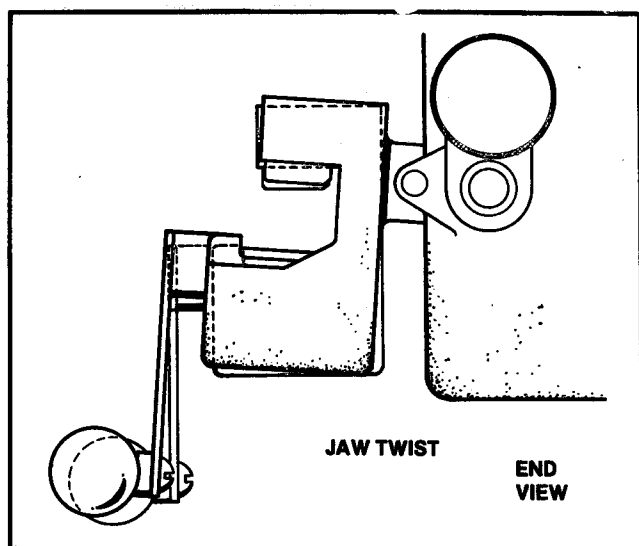

FIG. 18. TWIST MISALIGNMENT - MOVEABLE JAW AT ANGLE TO FIXED JAW.
- (3) **Twist.** Check for a "twist" existing between plane surfaces of the two jaws. Do this by moving the straight edge in and out on the two jaws. See Fig. 18.